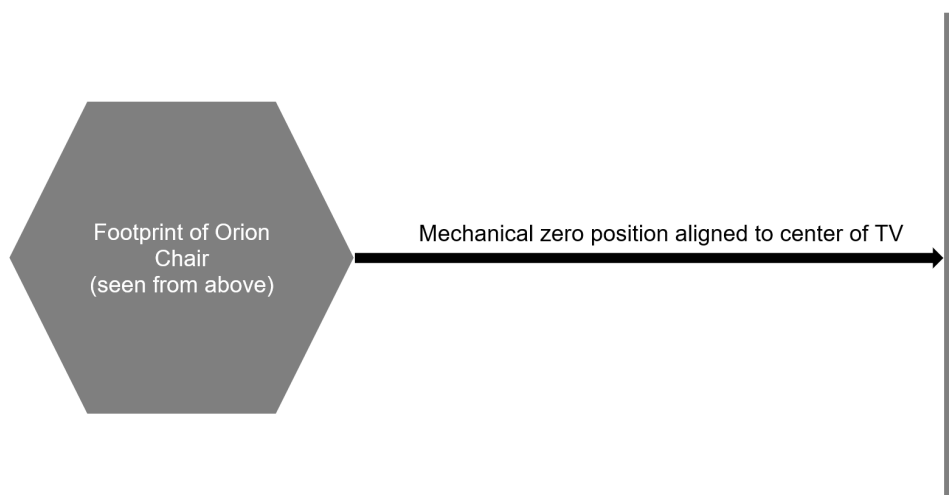

Figure 26: Illustration of mechanical zero facing television
**Note:** Center of the cable access panel is called Mechanical zero position, see Figure 26.